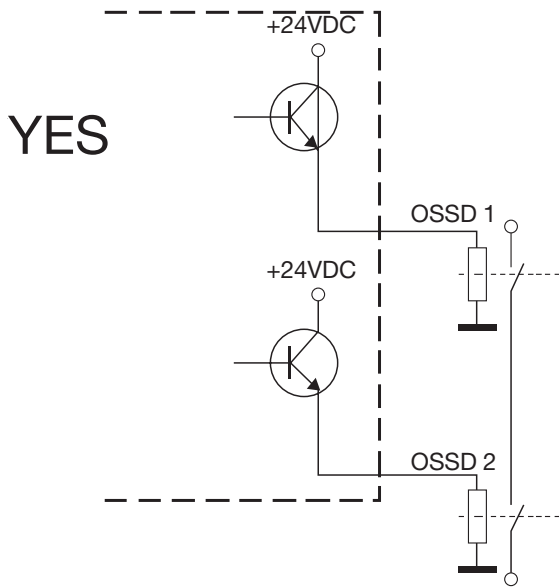

Fig. 17
- The OSSD1 and OSSD2 safety contacts cannot be connected in series or in parallel, but can be used separately (Fig.17), conforming to the plant’s safety requirements.